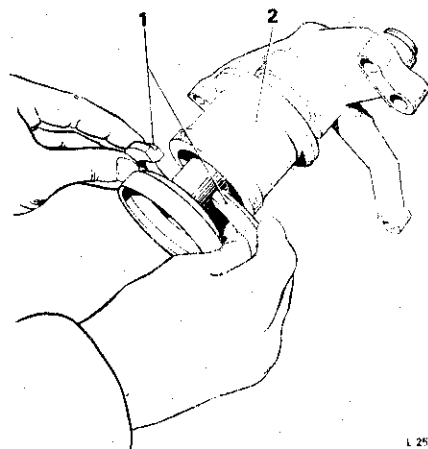

Fig. 2 - Showing the fitting of the spacers
10. Fit a distance piece to each front ram as shown in Figure 2.